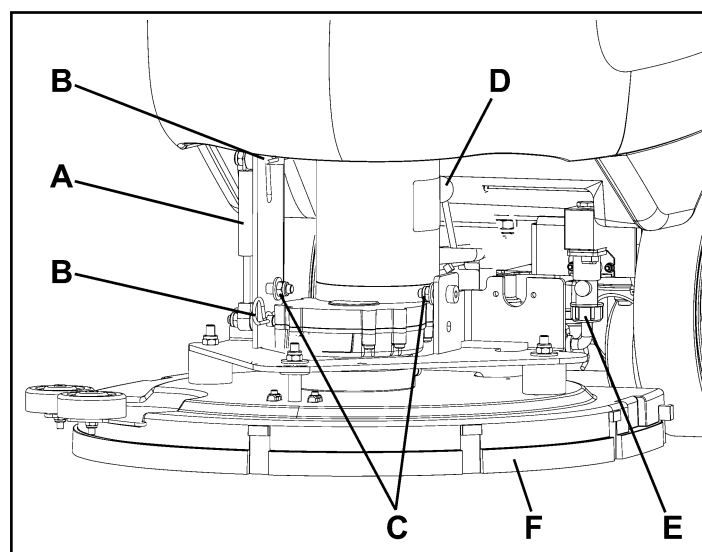

Figure 36
4. If equipped, remove the cotter pins (B, Fig. 36) and the gas spring (A).
5. Disconnect the brush/pad-holder motor electrical connection (D).
6. Disconnect the solution hose union (E).
7. Remove the screws (C), then remove the brush/pad-holder deck (F).
- When the machine is equipped with the cylindrical brush deck (S, Fig. 2 - Page 9), the gas spring (A, Fig. 36) must not be installed.